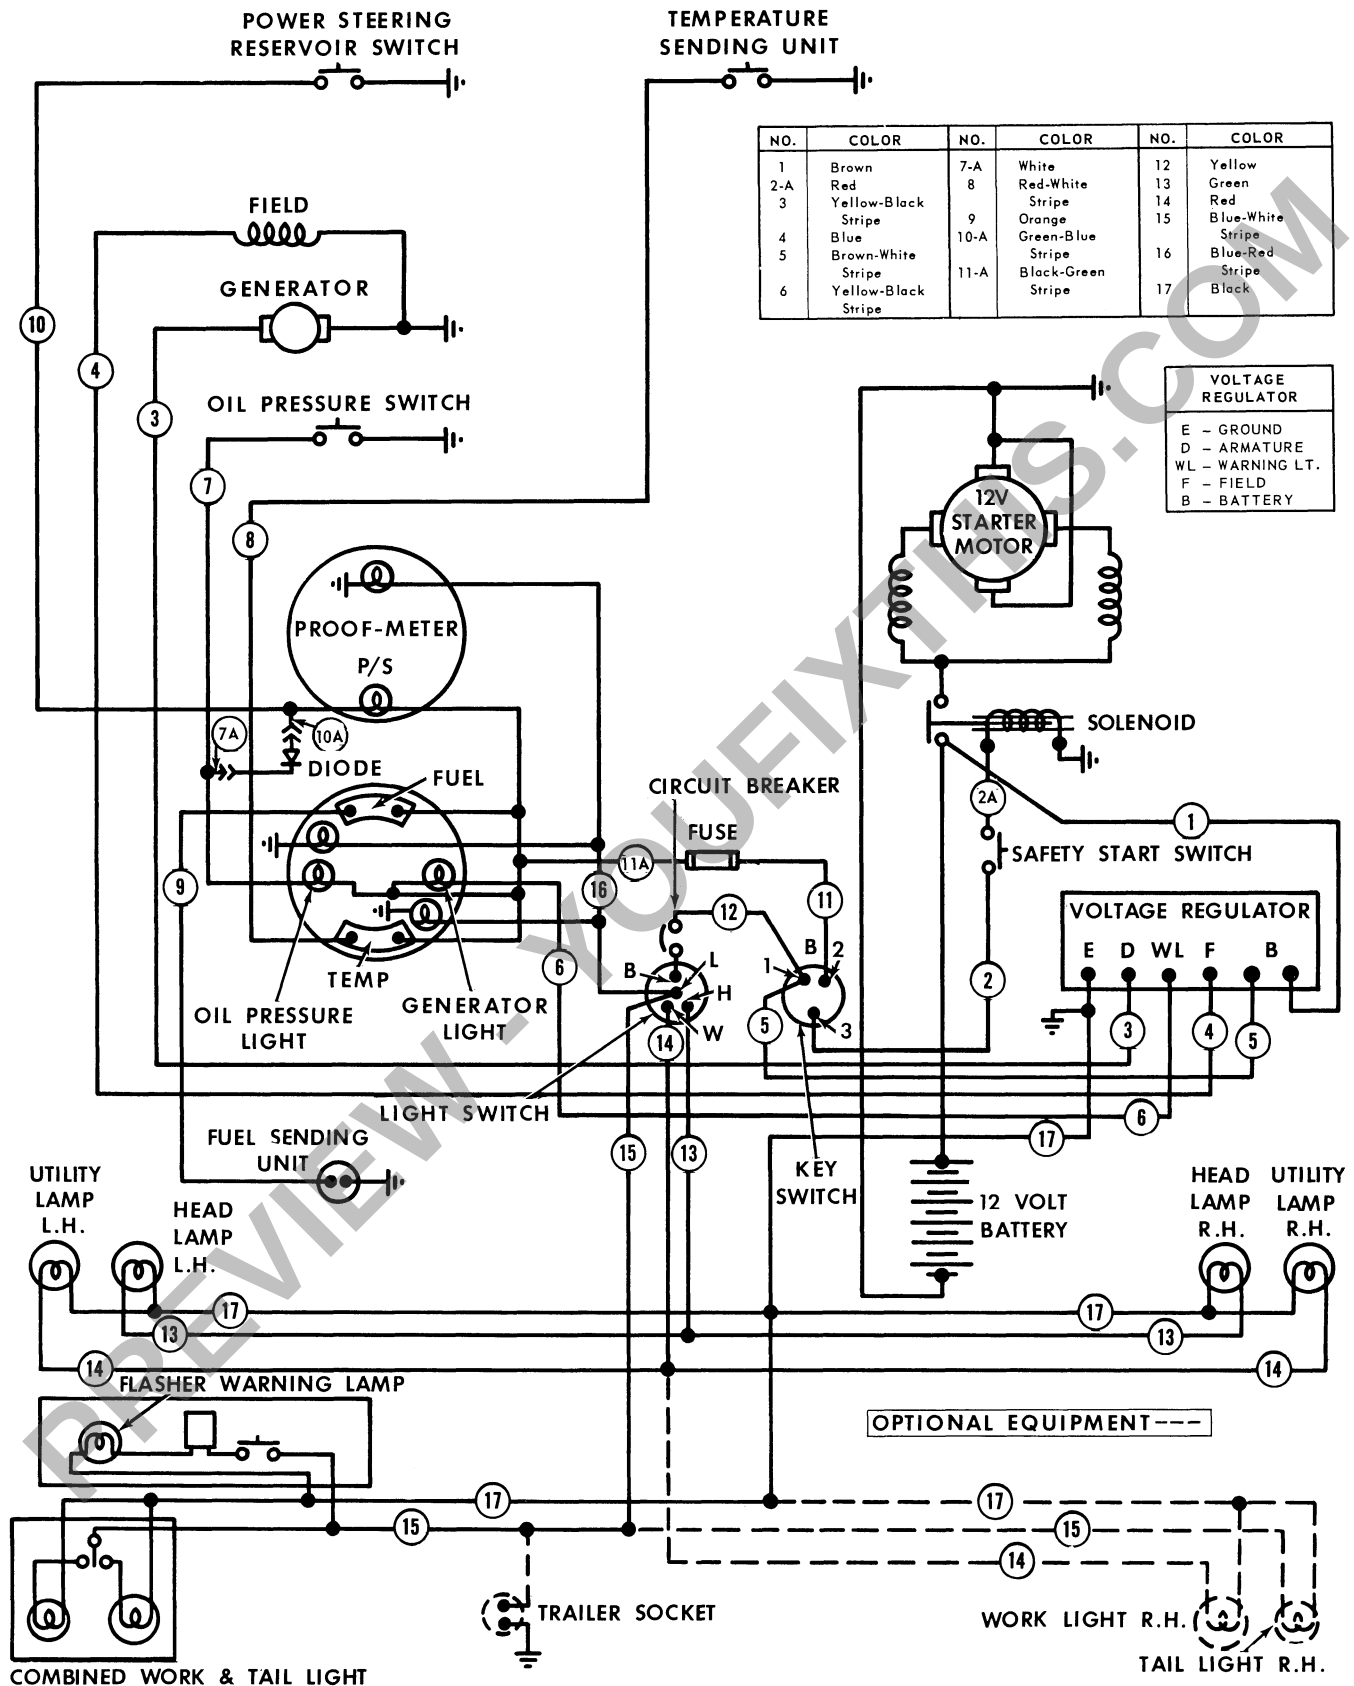

Figure 1
11. Remove the attaching hardware from each corner of the assembly and lift the entire assembly away from the tractor as illustrated in Figure 1.